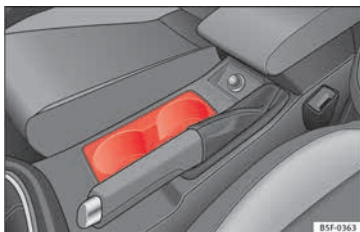

Fig. 155 Centre console: front drink holders.
- Place drinks in the holder » **Fig. 155**. Placement of two drinks is possible. There is also the possibility of placing larger plastic bottles in the trims of the doors.